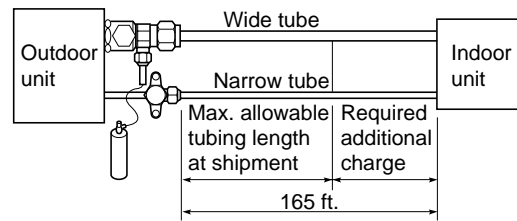

Fig. 11-5
- Charge additional refrigerant (calculated from the narrow tube length as shown in Sec. 1-5) using the wide tube service valve with the system in cooling operating mode. (Fig. 11-5)